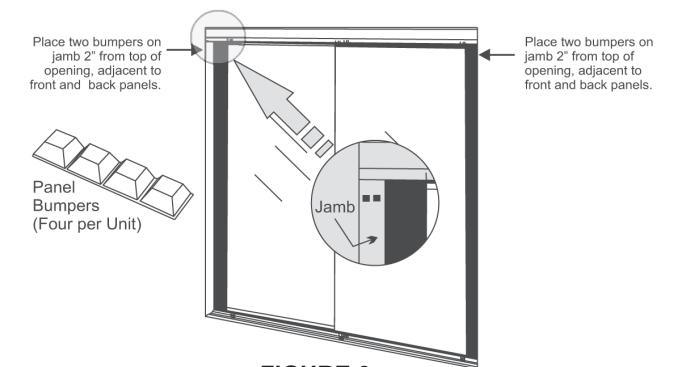

FIGURE 9
Install: Detach bumpers from strip and attach on jamb where the edge of mirror panel(s) and jamb(s) meet. Attach two (2) bumpers in the **TOP CORNERS** of the opening. Bumpers should be about 2"(51) from the top of the opening. This will accommodate the full bypass function of the panels. (Figure 9)